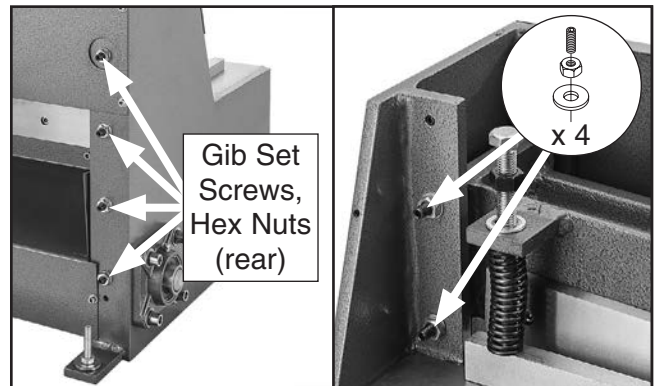

Figure 20. Gib set screws and hex nuts.
2. On each side of shear, loosen hex nuts on gib set screws (see **Figure 20**).